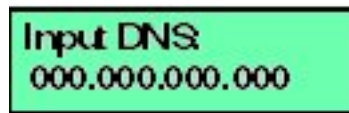

Figure 3.18. LCD Panel (Input DNS)
- Select **NO** by pressing **ENTER**. The following message displays (Figure 3-18).